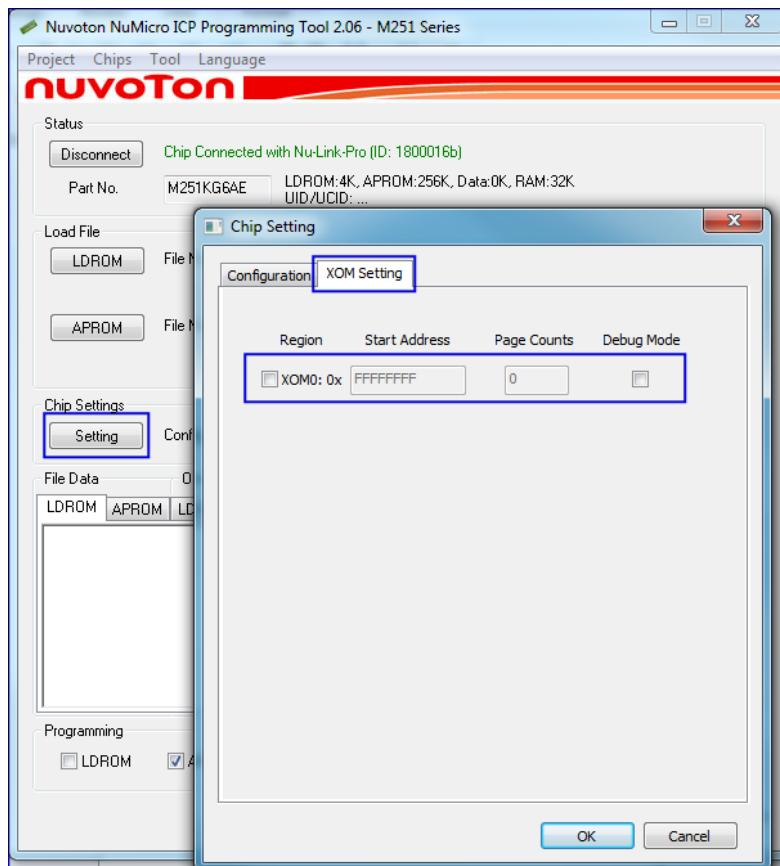

Figure 4-1 Open M251 Settings and XOM Setting
2. Click “Setting” button to open the “M251 Settings” page, as shown in Figure 4-1.